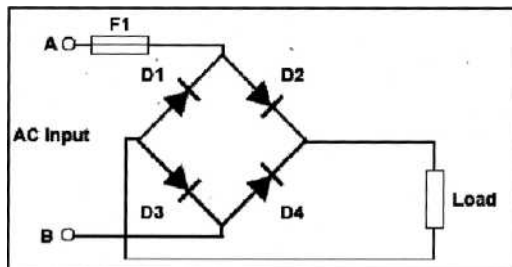

Figure 7.18
4. Refer to Figure 7.18 below. If input B is more positive than input A, which diodes will be conducting?